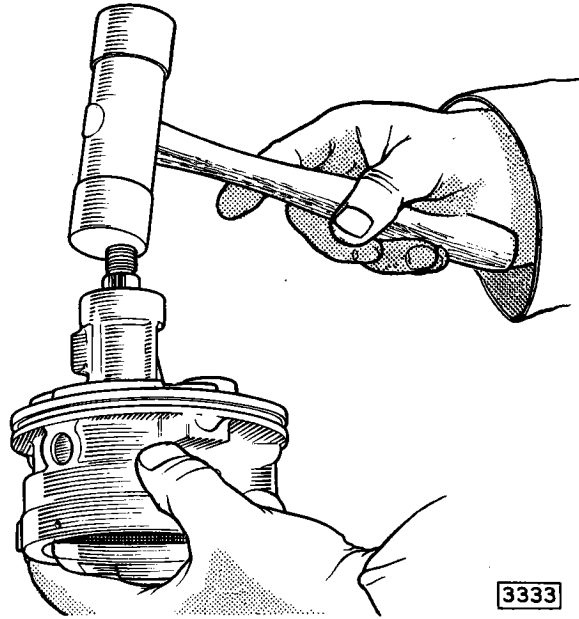

Fig. 26. Removing the pressure plate, pump ring and thrust plate assembly.
Remove the key (11 Fig.7) from the shaft and gently tap the end until the pressure plate, pump ring, rotor and thrust plate (12) can be removed as an assembly (Fig.26).